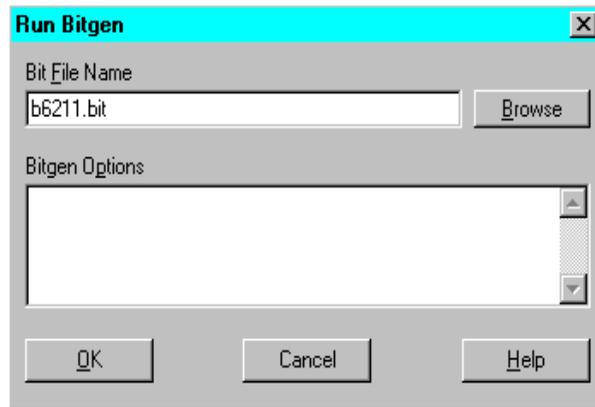

Figure 3-23 Run BitGen Dialog Box
10. To create a BIT file of your modified design, select **Bitgen** in the ILA dialog box. Figure 3-23 is displayed.